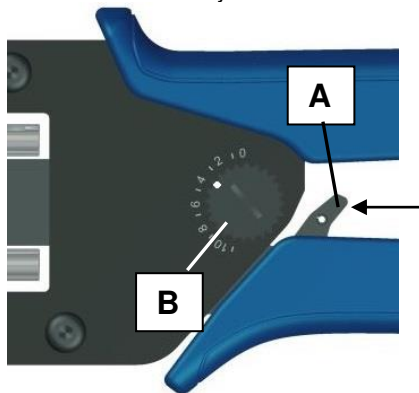

Fig.6.
- ❑ Using a finger, push the ratchet relief (A), located inside the moving handle, (Fig. 6.) in direction as shown to unblock the tool, and remove obstruction before continuing with the work.